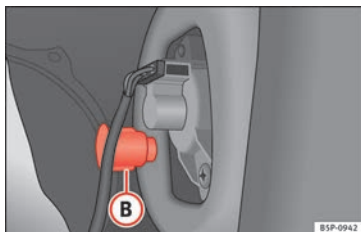

Fig. 185 Side lights and brake lights.
- Unscrew the plastic fitting » **Fig. 185 B** securing the tail light. Inserting a screwdriver under the plastic fitting may help to loosen it.